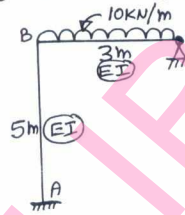

Fig.Q8
- 8 Analyze the mill bent as shown in Fig.Q8 by flexibility matrix method with system approach and also determine its bending moment diagram.